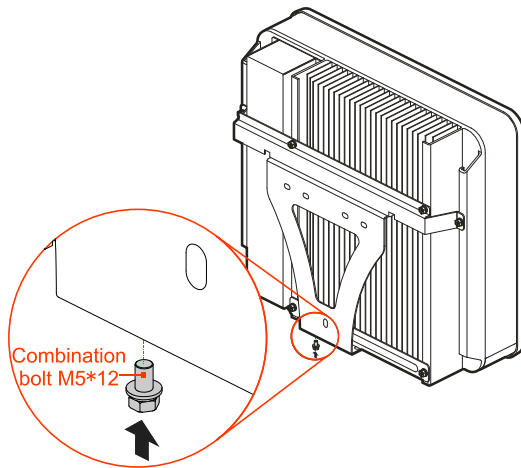
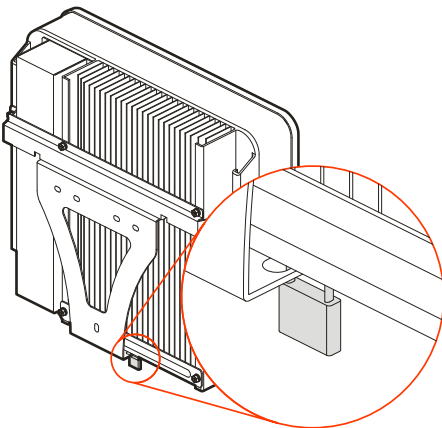

Figure3-12 Fasten the inverter
Figure3-13 Position of lock (The lock customer provided)
- Step 6 Fasten the inverter to the installation holder by stainless steel combination bolt M5*12 (as shown in Figure3-12) and then lock it. The lock position is as shown in Figure3-13.